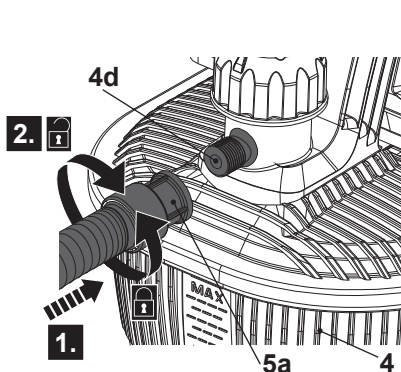

Fig. 1
- > Screw one hose adaptor (5a) to the hose connector (4d) of the water tank (4) in a clockwise direction. Ensure the connection is properly secured (Fig. 1).